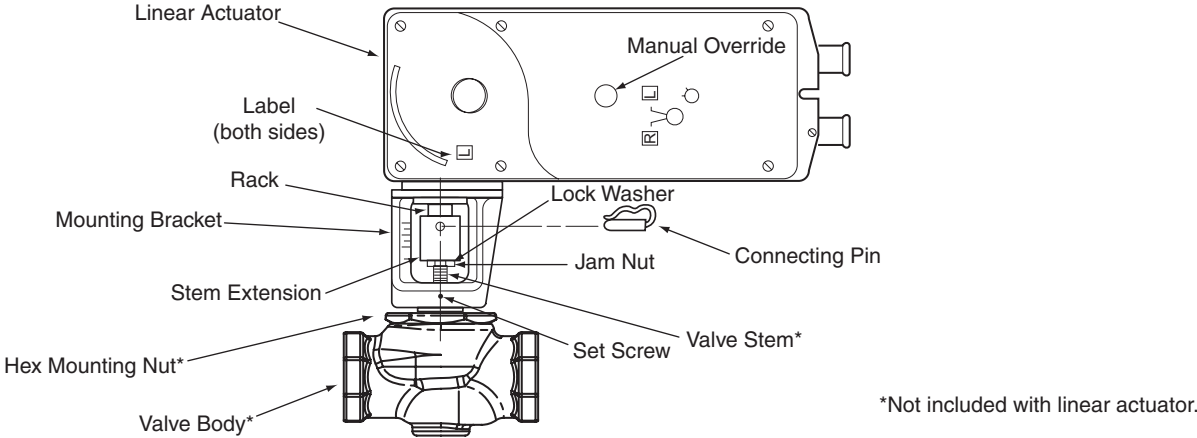

Figure 11 Typical Assembly and Installation of Mx51 Series Actuator to 1 1/4" to 2" VB-7xxx Series Valve Bodies, Stem-Up Closed or Open, 2-Way and 3-Way Valves.
1. Install the actuator onto the valve. Set up the assembly according to the numbered steps in Figure 11.